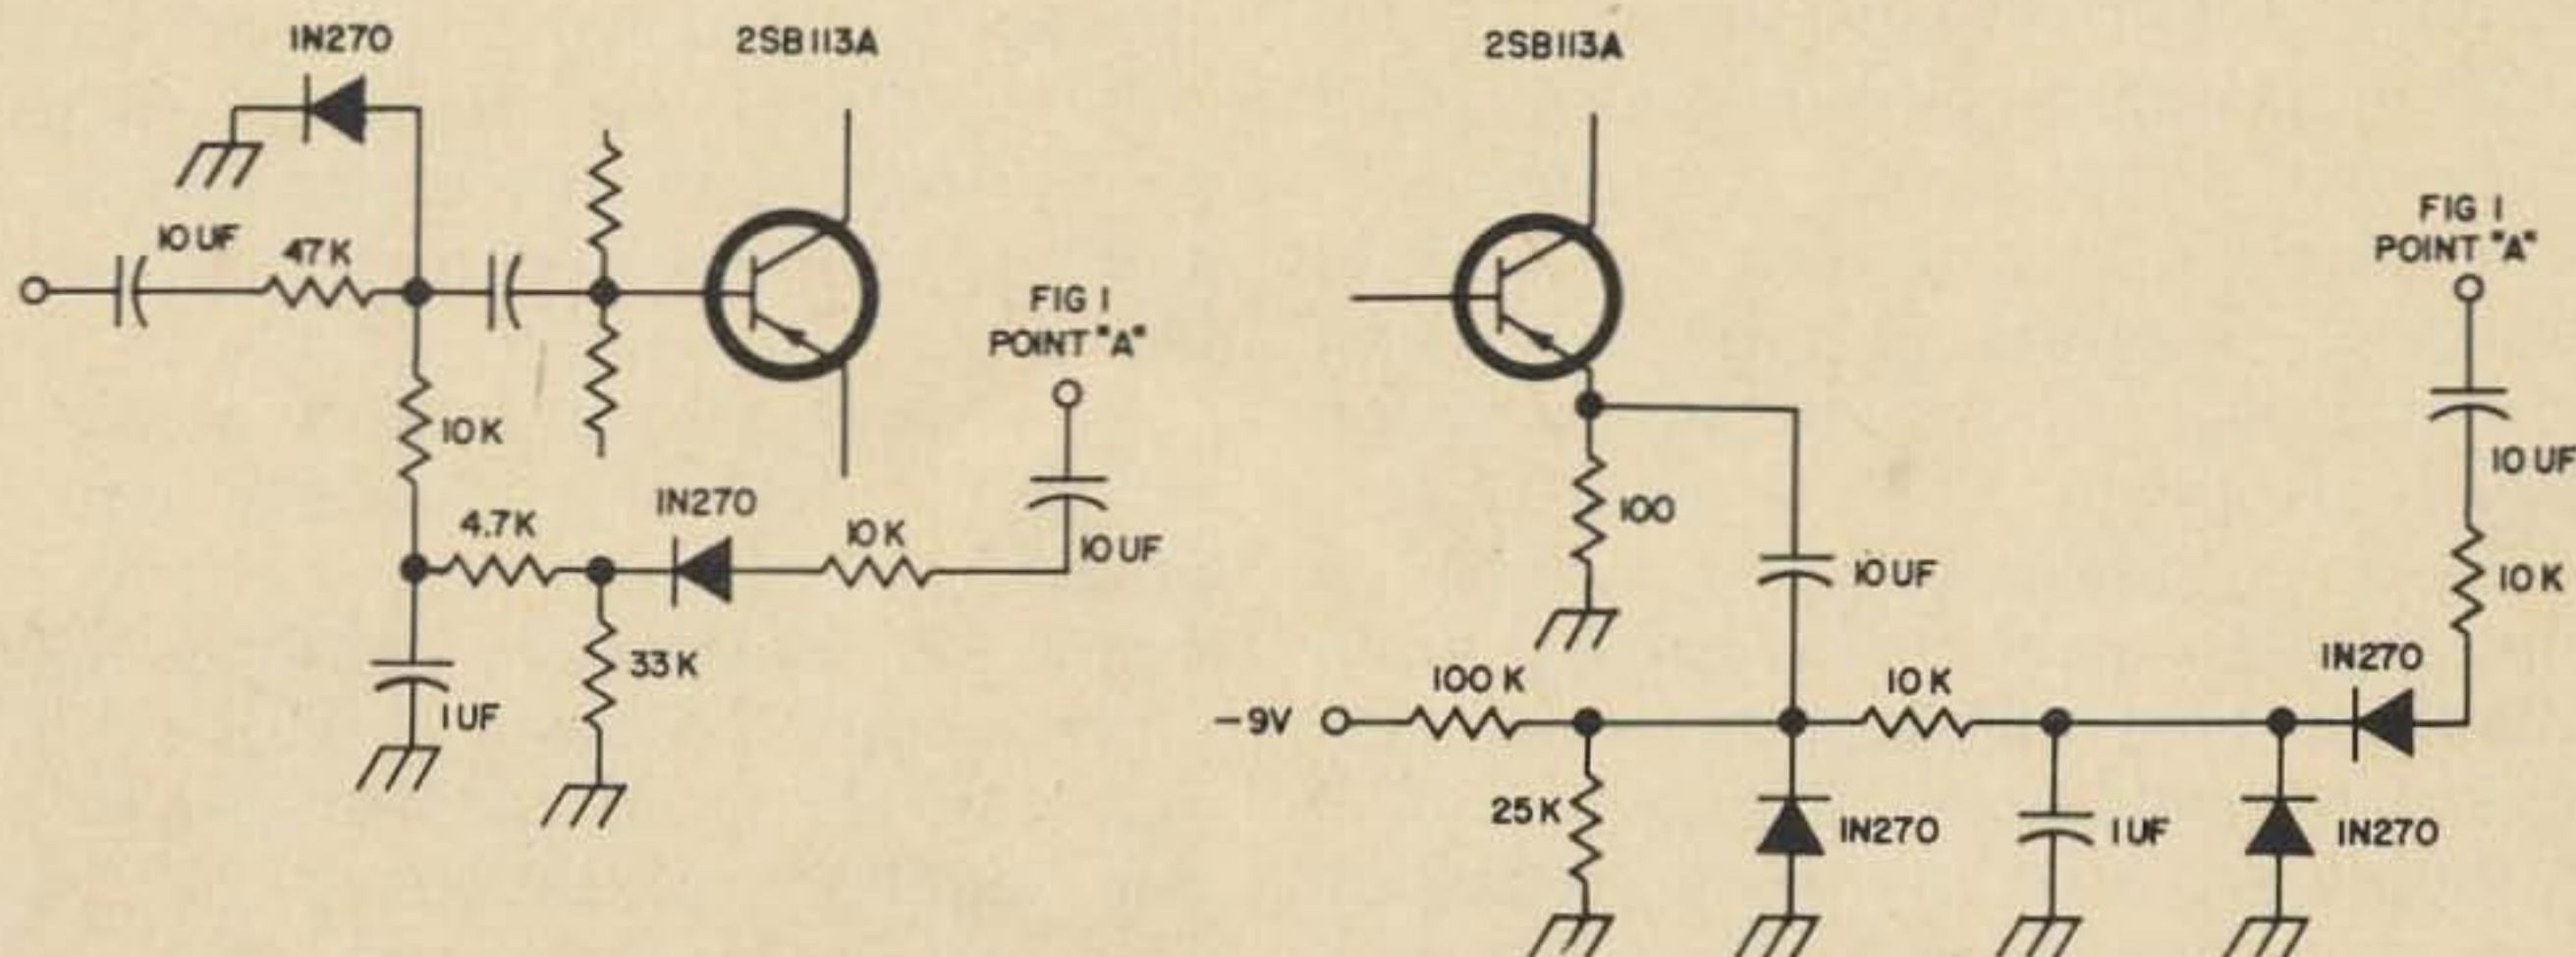

Fig. 2. Simple compressor control circuit (A) and slightly more elaborate circuit (B) providing "threshold" action.
Fig. 2(A) shows a very simple and effective means employing an absolute minimum of added components. In this circuit, part of the output of the 2SB176 stage is rectified by the IN270 diode. This voltage is used to bias the other IN270 diode which is connected in the microphone lead after the 47 K ohm resistor. Increased amplifier output causes the IN270 in the input circuit to be biased so it presents a low resistance to ground. In conjunction with the 47 K ohm resistor it then forms a voltage divider
This disadvantage can be overcome by the only slightly more complicated circuit of Fig. 2(B). In addition, this modification introduces some degeneration which helps to improve the frequency response and lower